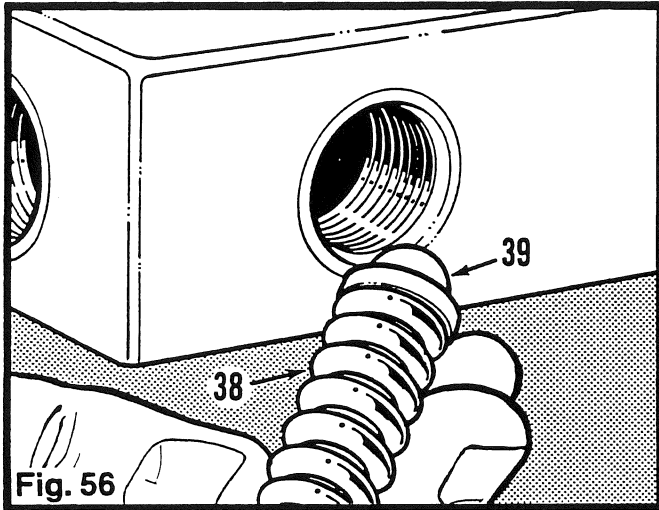

Fig. 56
4. Remove the springs (38) and poppets (39). (Fig. 56)